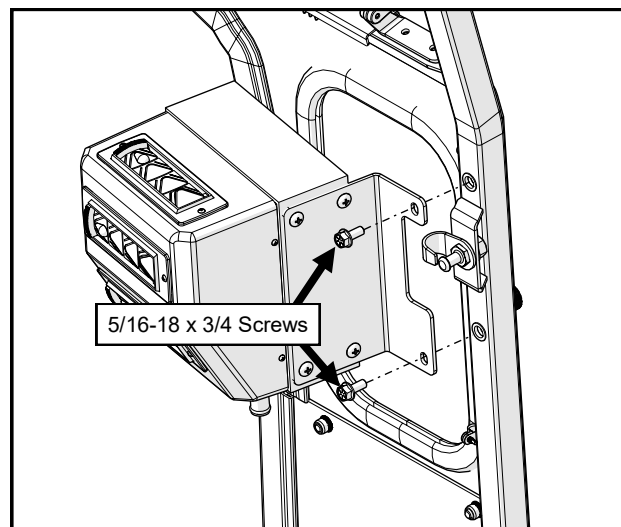

Fig. 16.2 (Install Heater)
16.2 Attach the heater bracket to the right A-pillar. See Figure 16.2. Tighten hardware.